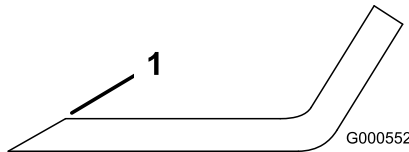

Figure 101
1. Use a file to sharpen the cutting edge at both ends of the blade (Figure 101).
Note: If the blade is not balanced, file some metal off the end of the sail area only (Figure 101).